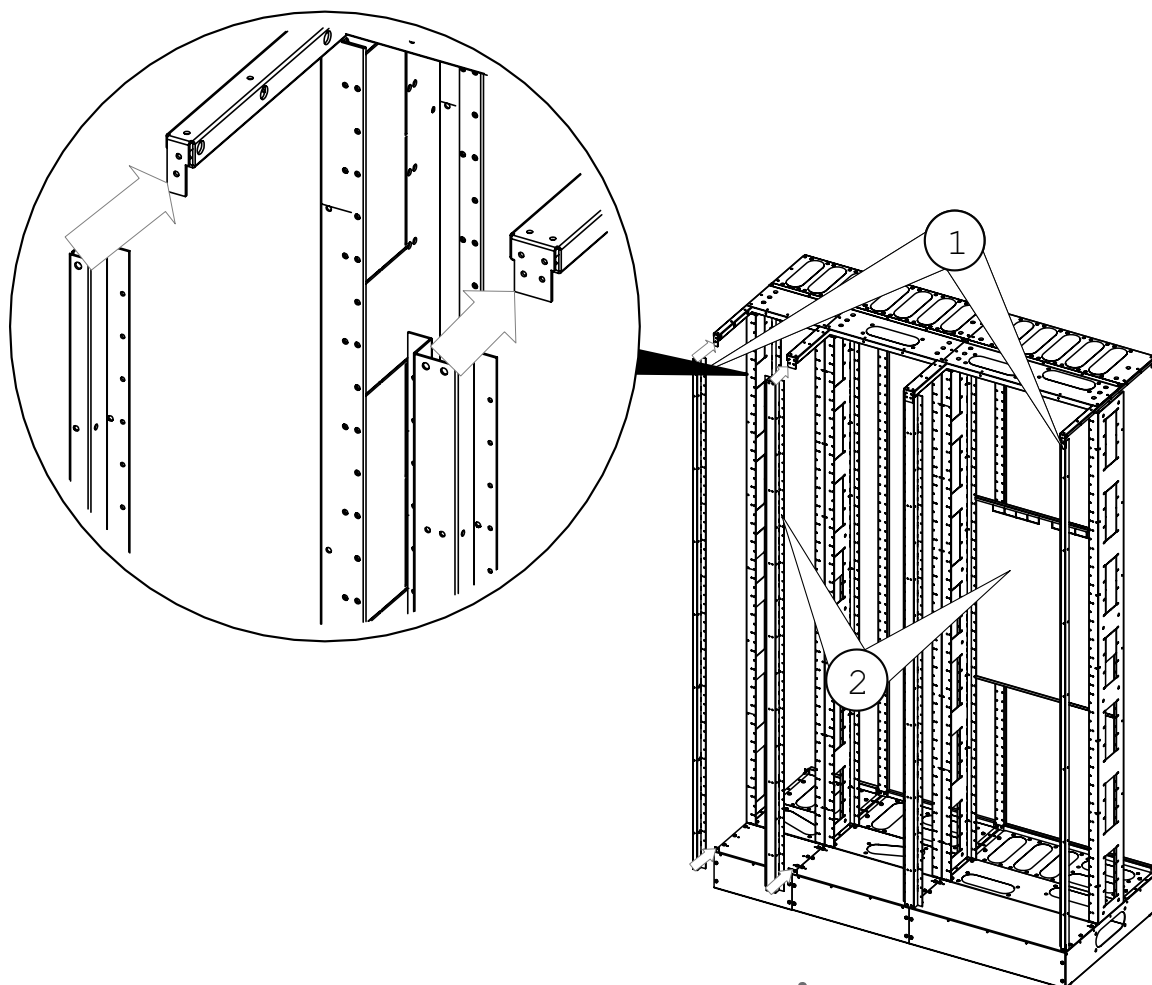

Fig 2.16. Back profiles and joint back profiles are fastened with screws to dividers and intermediate beads.
Rear profiles are needed only in cell centre frames with 600 mm nominal depth. Joint back profiles (1) are fastened with screws to the cell centre ends and back profiles (2) to the base dividers and intermediate beads, Fig. 2.16.